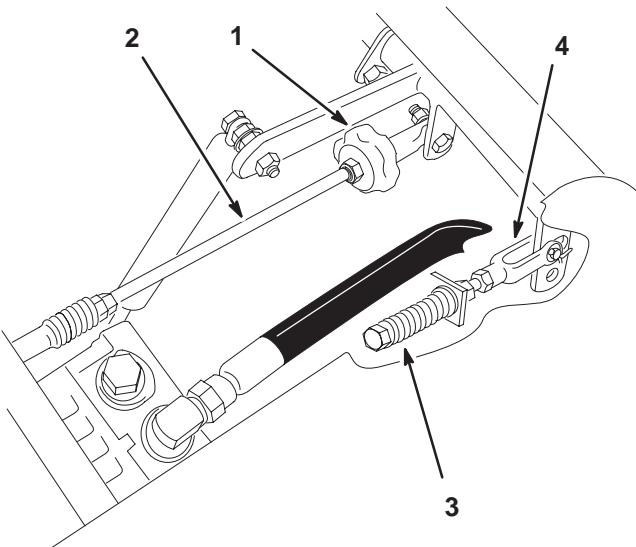

Figure 57
2. Adjust pump rod length by rotating the knob, in the appropriate direction, until the wheel is still or slightly creeping in reverse (Fig. 57).